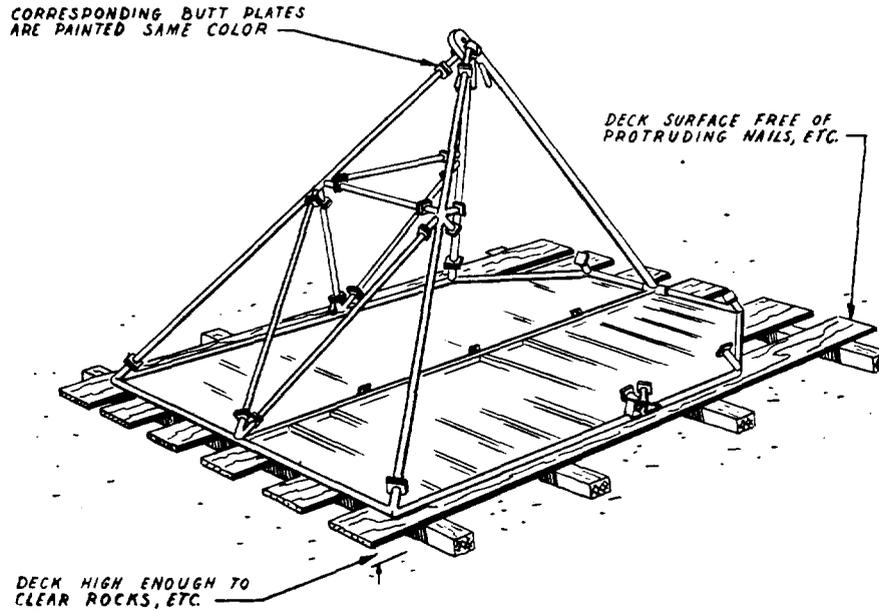

Fig. 2 — Method of Assembling KS-16320 Passive Reflector
2.05 Each crate should be opened carefully after it has been properly placed. The packing list with each crate must be preserved at least until a complete checkoff of all required parts has been made, as noted below. It may then be disposed of at the discretion of local supervision. Remove parts carefully; place the tubular members in a convenient temporary location and arrange the labeled cloth bags of bolts, miscellaneous hardware items, so that they will be accessible during assembly of the reflector, and will not be lost. The shipment should be checked thoroughly for completeness with the aid of Fig. 2 in Section 402-423-400. *If any parts are found to be missing or apparently damaged, report the fact promptly to supervision.*
2.06 The strut assembly, Item 32B, Fig. 2, in Section 402-423-400, and the top mount assembly, Item 12B in the same figure, are not required until the reflector is ready for immediate installation. These pieces must be suitably protected from loss or damage during any interim period.
3.01 The reflector, Item 14, Fig. 4, in Section 402-423-400, is shipped in two parts. At least two men are required to remove each reflector section and place it face down on the deck, as shown in Fig. 2 of this section.
3.07 Assemble guide clamps, Items 33B, Fig. 2, in Section 402-423-400, as shown in enlarged view A-A of the figure. The projecting ends of the lower pieces face the center of the reflector. Since the clamps cannot be accurately positioned until the reflector is placed on the lower mount during installation, push them to the outer edges of reinforcing tube, Item 35, Fig. 4, in Section 402-423-400 and clamp them just tightly enough to hold them temporarily in place.
5.01 If an assembled reflector is to be left stored out-of-doors overnight, or where circumstances warrant that precautions be taken to prevent damage, it should be placed face down on a smooth surface in the manner indicated for assembly in Fig. 2 of this section. Drive stakes into the ground near the corners and fasten ropes securely from the stakes to the adjacent tubing connections on the back of the reflector frame to prevent the reflector from being overturned by winds, etc. *Every precaution must be taken in such a case to avoid the possibility that the reflector be trampled by animals, or exposed to other hazards peculiar to the location.*